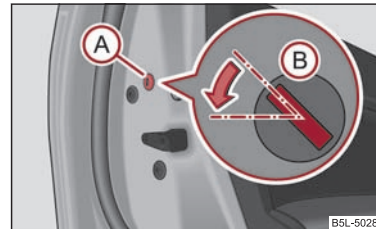

Fig. 27 Rear door: Emergency locking of the door
- Remove the panel A ⇒ fig. 27.